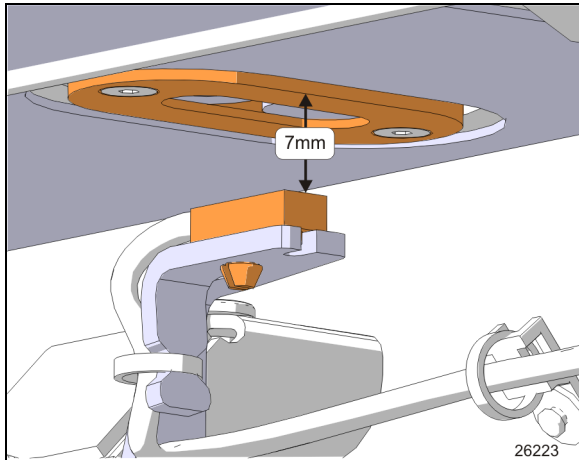

FIGURE 52: SENSOR VERTICAL ADJUSTMENT
- Bring slowly the sensor toward the outside of the vehicle until the LED turns on. When it does, move it 0.079" (2mm) further in the same direction. Adjust vertically to 7mm from magnet support face (Figure 52). Tighten the mounting bracket screws.
- Bring slowly the sensor toward the outside of the vehicle until the led turns on. When it does, move it 0.079" (2mm) further in the same direction and adjust vertically to 7mm from magnet support face (Figure 52). Tighten the mounting bracket screws.
No drilling is allowed in the zones identified by Figure 52, and Figure 53. *This applies on both sides of the slide-out room.*